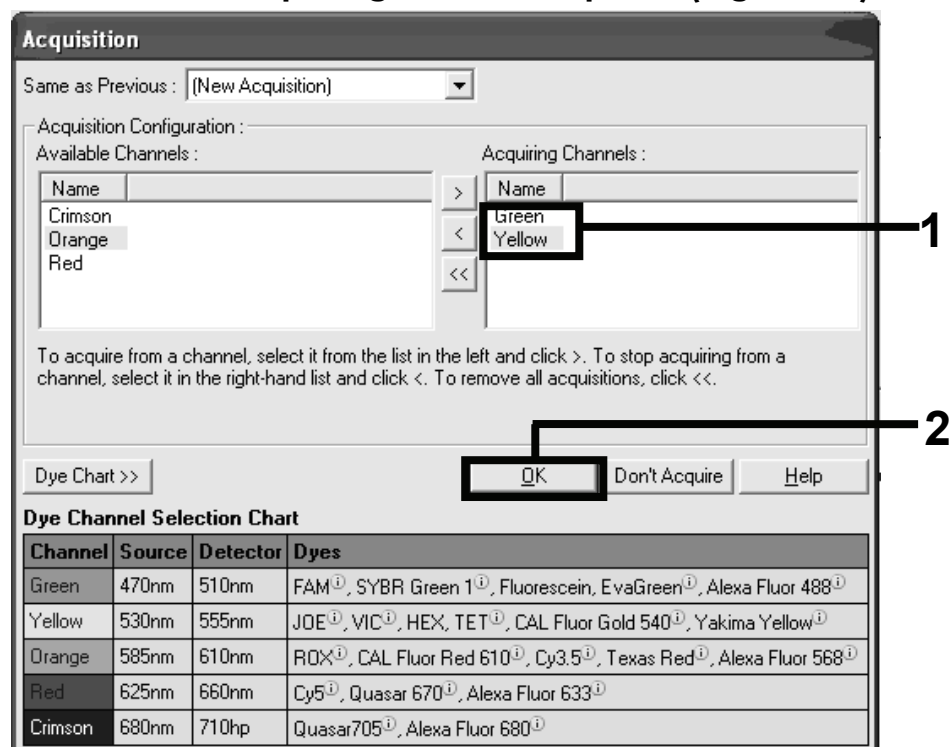

Figure 22. Acquiring at cycling step of 60°C.
17. In the "Available Channels" panel, select the "Yellow" and "Green" channels to acquire by highlighting them and then click ">" to transfer them to the "Acquiring Channels" panel (Figure 22).